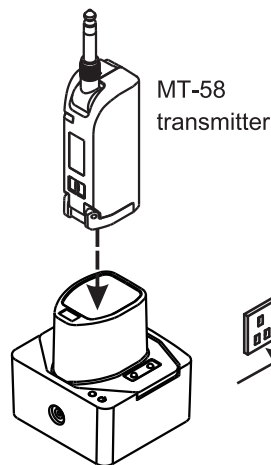

Fig. 38
- (B) Plug-in both ends as shown in Fig. 38.